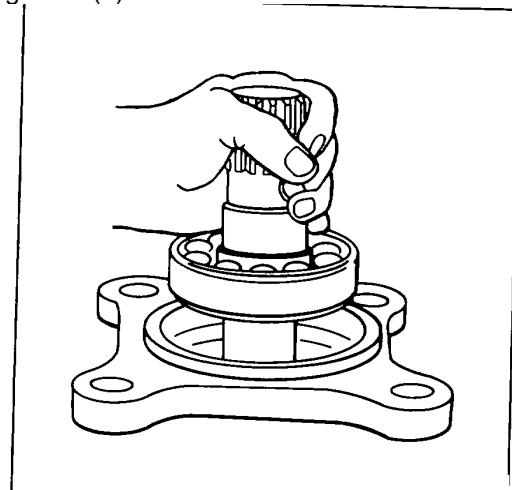

Figure 131.
1. Inspect pump shaft (1) for excess wear or damage. If either spline shows damage or if bearing journal or seal surface shows galling, scoring or heat discoloration, replace shaft.
2. If inner and outer race of roller bearing (50) are not damaged or worn, assemble inner race on shaft (1) with retaining ring (49) using truarc pliers. If either inner or outer race is damaged, replace bearing as a set only! Install new inner race as described above.
3. If previously removed, install inner retainer ring (55). Inspect old ball bearing. If galled or damaged, press new ball bearing (30) on pump shaft (1). Ball bearing (30) should seat against inner retainer ring (55). CAUTION should be exercised not to deform inner retainer ring by forcing bearing (30) against it. If deformed, back bearing (30) off and reseat. Care should be taken to support inner race of ball bearing (30) in arbor press while pressing in shaft (1). Heating the ball bearing in hot oil will aid in a smooth bearing installation. Install outer retaining ring (55).
4. Install pump shaft assembly (1, 30, 55, 49 & inner race of 50) through the front face of the mounting flange (2). See Fig.131. The ball bearing (30) should fit snugly in the flange (2). If ball bearing (30) doesn't seat easily, heat mounting flange (2) in hot oil and seat ball bearing in proper position. Do not drive the ball bearing (30) into place. Do not use the shaft seal retainer (57) to force bearing into seat. Check bearing (30) for free running by rotating shaft (1).